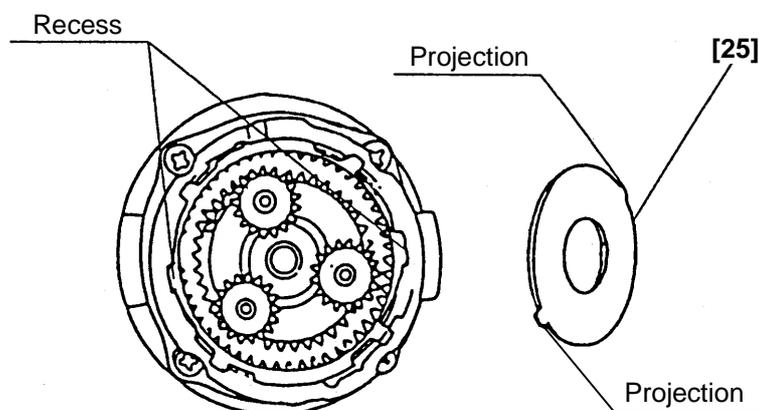

Fig. 13
Install Washer (B) [25] in the Rear Case [17] so that the projection of Washer (B) [25] is engaged with the recess in the Rear Case [17], and turn Washer (B) [25] clockwise until it can turn no further. (See Fig. 13)